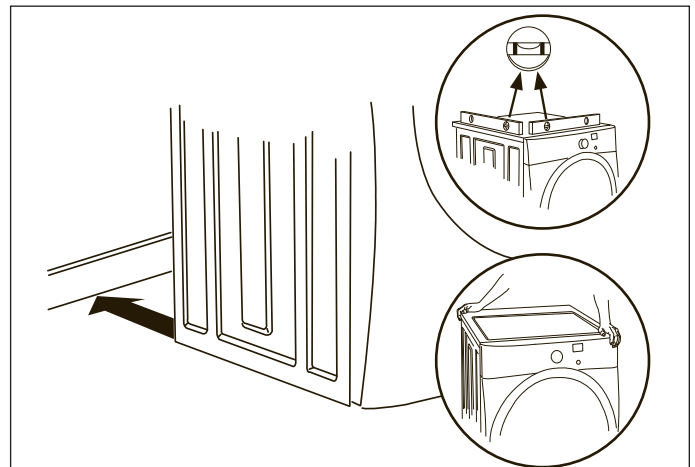

Figure 2-16.
2. Carefully slide the dryer to its final position. Adjust one or more of the legs until the dryer is resting solidly on all four legs. Place a level on top of the dryer. The dryer MUST be level and resting solidly on all four legs. Rock alternating corners to check for stability. Remove and discard door tape. (See Figure 2-16)